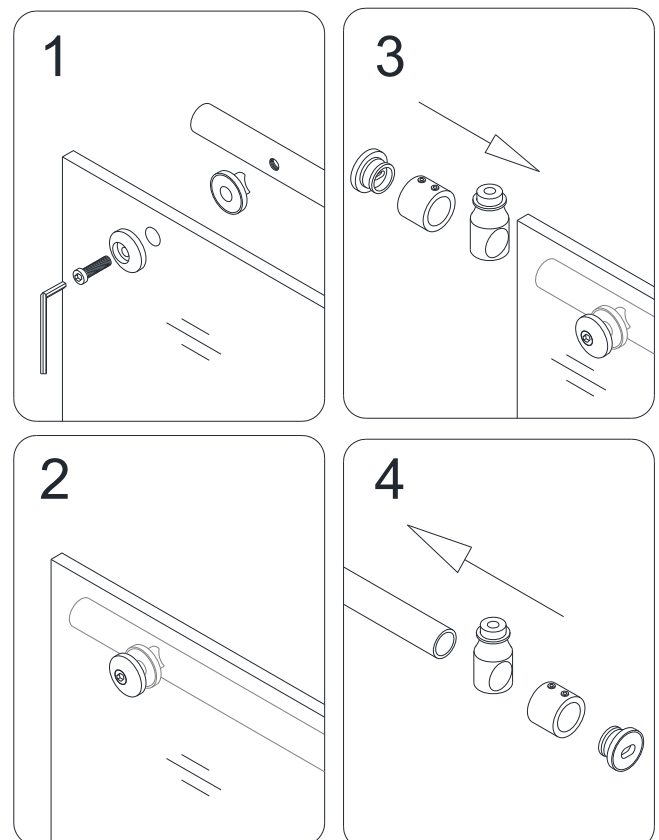
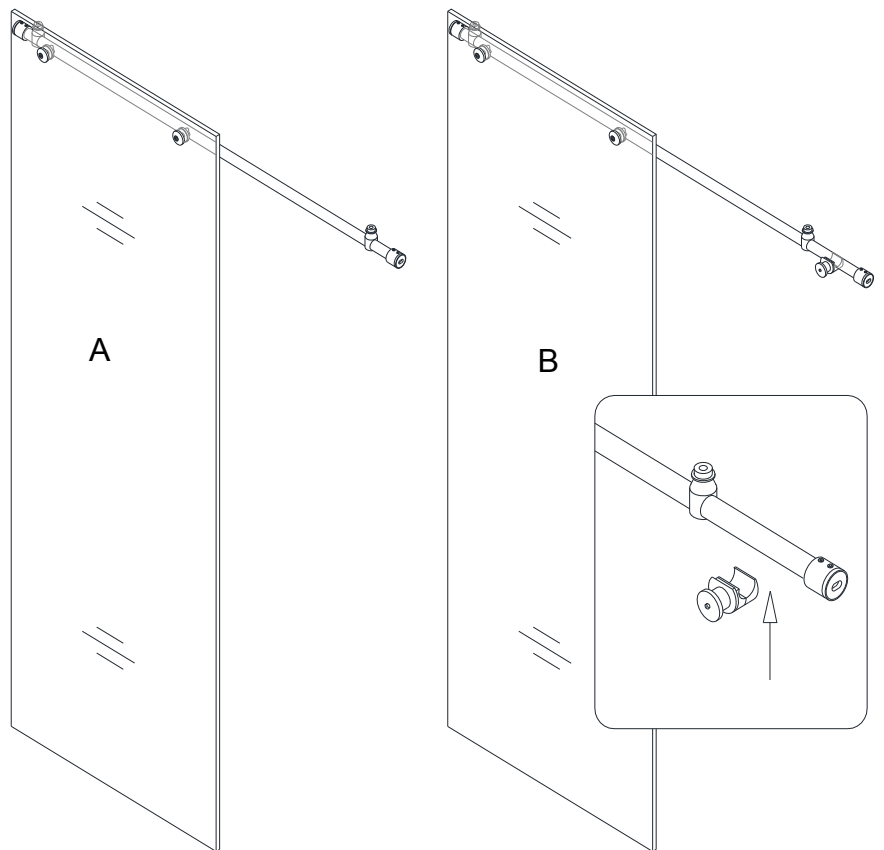

Fig. 6
Fig. 7
See Fig. 6 and Fig. 7 for details.
If the width of your door is **72"** and you are installing the door with the **Small Stationary glass (24)**, attach **Small Stationary glass bracket (23)** to the **Guide rail (03)** as shown in Fig. 7(B)